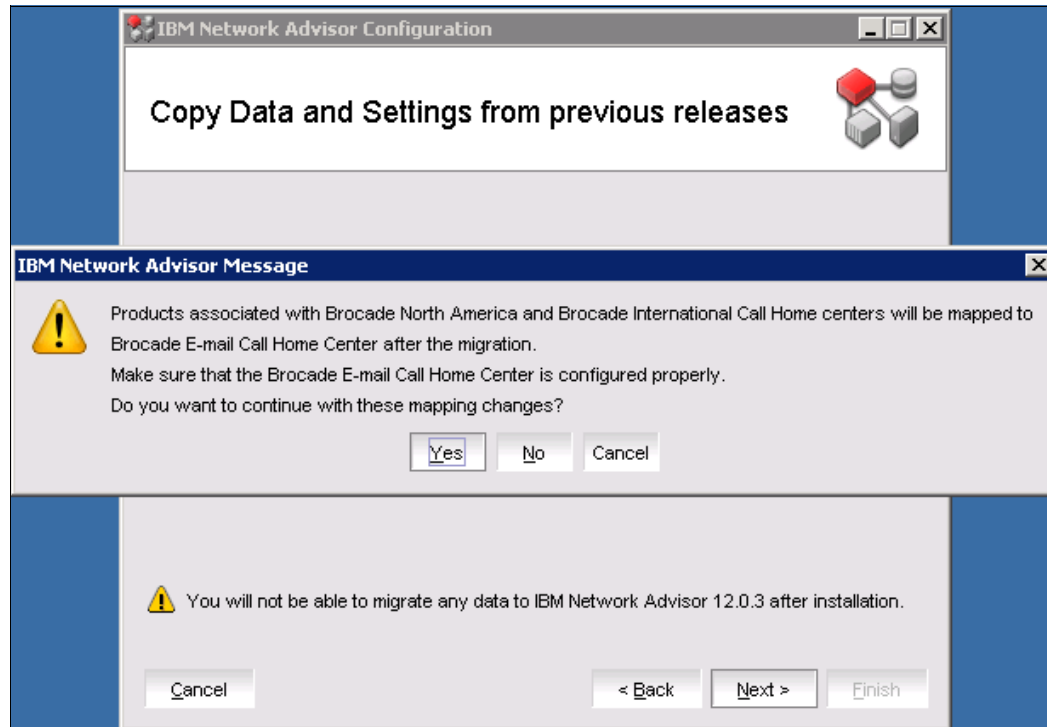

Figure 3-23 Window with Call Home settings
8. A dialog box with information about Call Home settings opens, as shown in Figure 3-23. This feature is introduced with IBM Network Advisor V12.0.3, where products that are associated with Brocade North America and Brocade International Call Home centers are mapped to the Brocade email Call Home call center after the migration. You may select **Yes**, **No**, or **Cancel**, and then click **Next**.